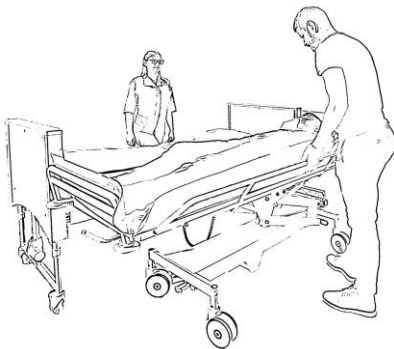

Fig. 5
14 Fold up the Koval shower trolley's side rail, opposite from the side of the transfer and bed (see Figure 5).
5 Position the Koval shower trolley along to the bed (see Figure 5).
- 7 Fold down the remaining Koval shower trolley's side rail, opposite from the side of the transfer. (See Fig. 5).